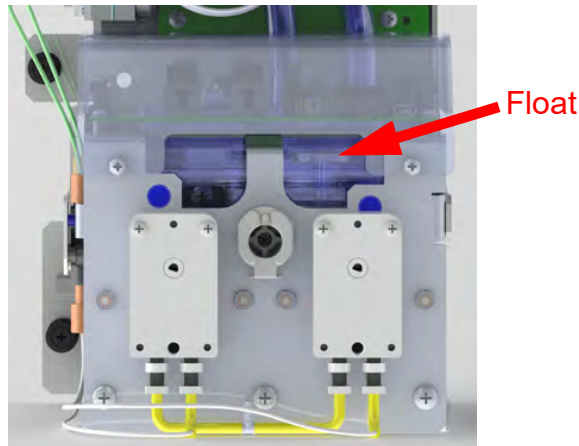

Figure 53: Water Reservoir with Float
NOTE: The float should be just below the top of the reservoir. Do not overfill (Figure 53).
8. Verify that the water line is **just below** the top of the reservoir (Figure 53). Add water as needed. See “To fill the DI water reservoir” on page 50).